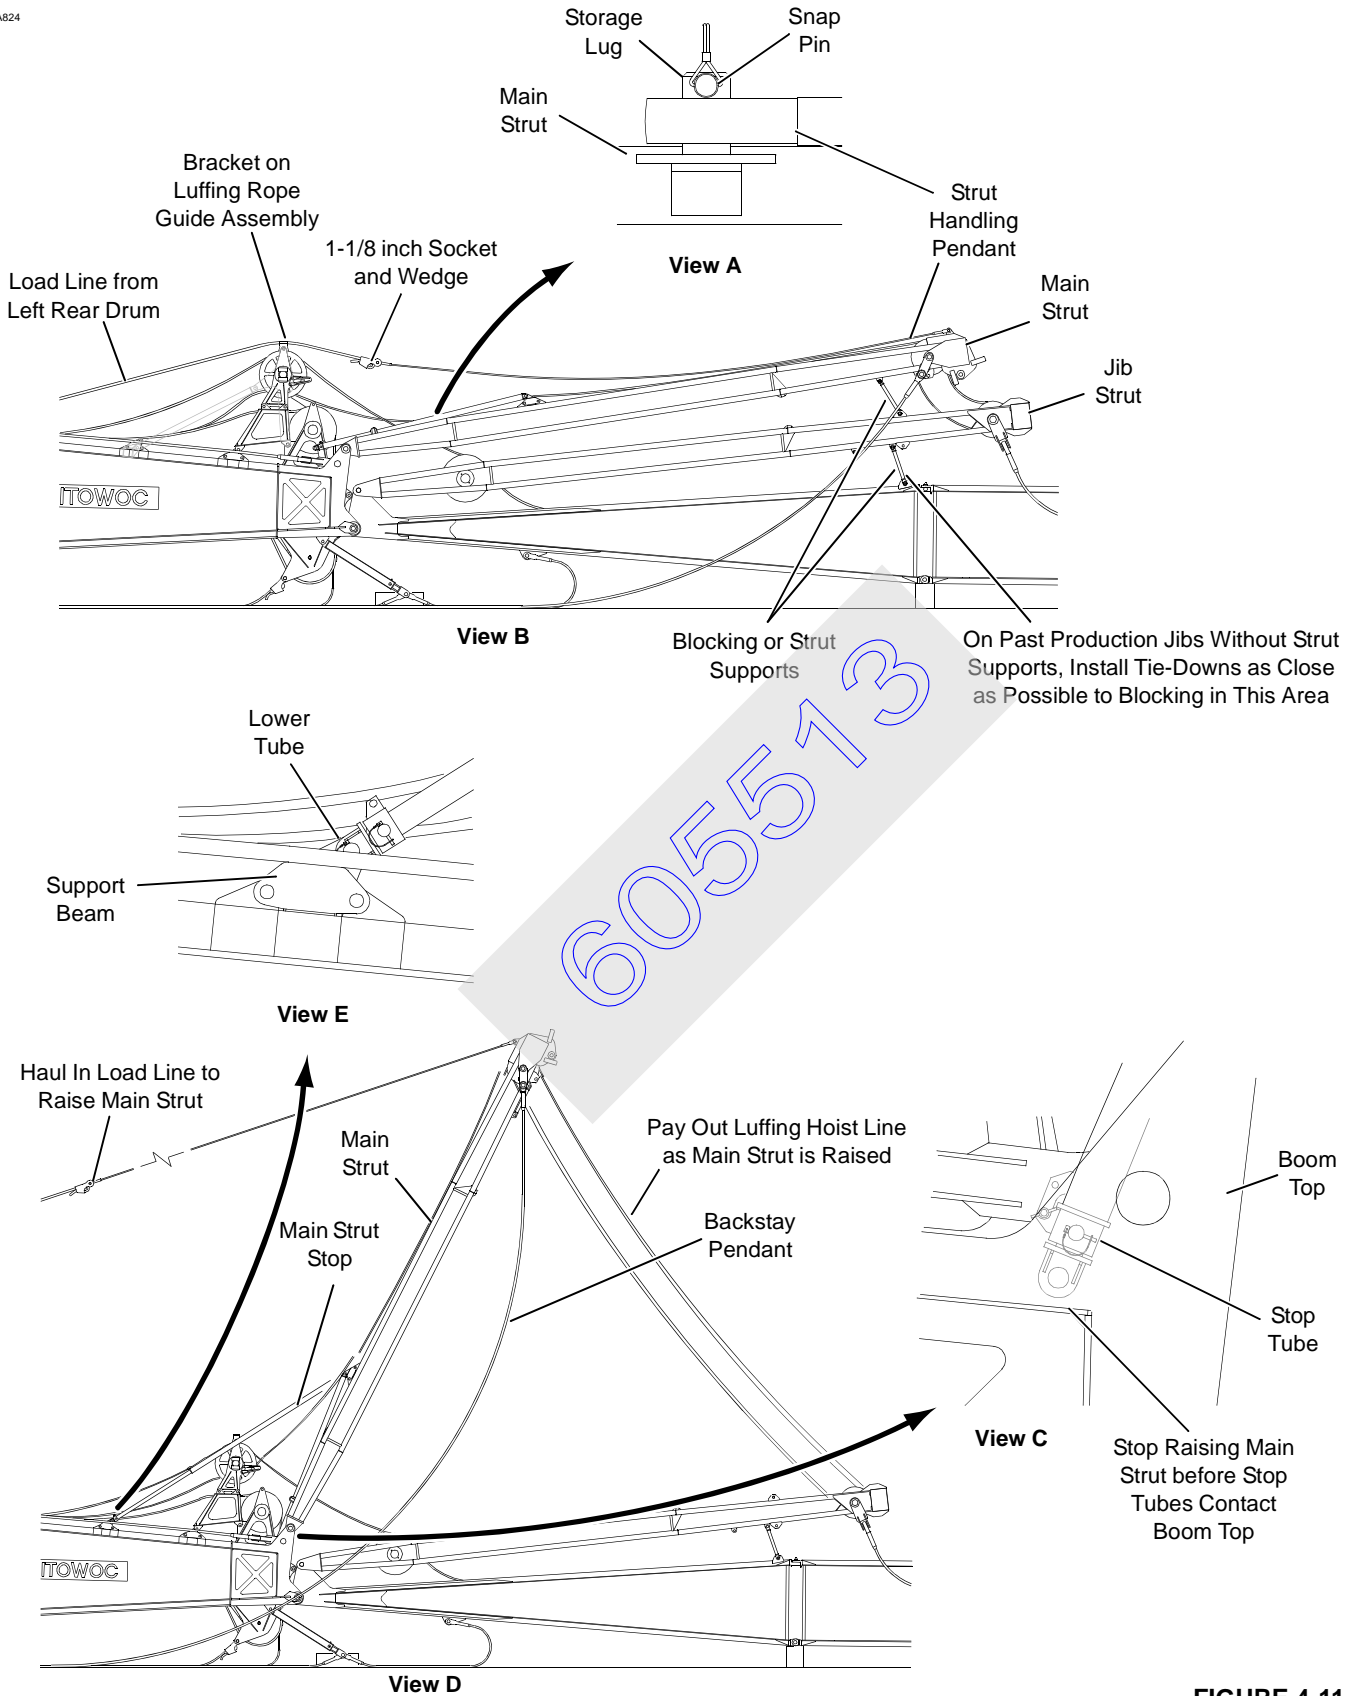

FIGURE 4-11
1. Tie-downs are not required on current production jibs. The strut supports (Figure 4-11, View B) will prevent the jib strut from rising when the main strut is raised.
Install tie-downs as close to blocking on jib butt as possible (Figure 4-11, View B). **Tie-downs must withstand a 5,000 lb (2 268 kg) pull on both sides of jib strut.**
2. Unpin strut handling pendant from storage lug on left side of main strut (Figure 4-11, View A). Store snap pin in lug.
5. Guide load line over bracket on luffing rope guide assembly and pin socket on load line to strut handling pendant (Figure 4-11, View B).
7. Haul in load line to raise main strut. At same time pay out luffing hoist line (Figure 4-11, View D).
8. Stop raising main strut (release control handles to off) when main strut stop tubes are a few inches (mm) from contacting boom top (Figure 4-11, View C).
- c. Pin lower tube to support beam (Figure 4-11, View E).
12. Disconnect strut handling pendant from socket and pin pendant to storage lug on left side of main strut with quick-release pin (Figure 4-11, View A).